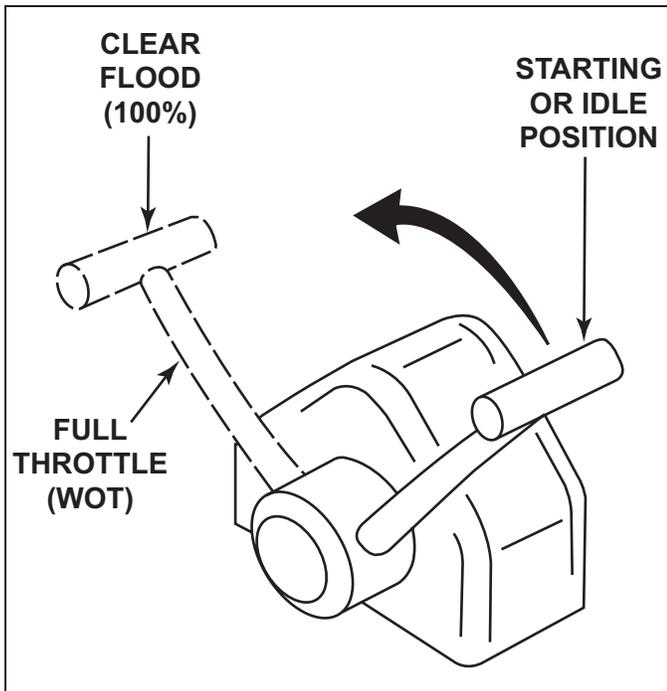

**Figure 5-2A** Water Leaks
- Cooling system for leaks. If equipped with fresh-water cooling, check coolant level in recovery bottle. Check for signs of water leaks at the exhaust manifolds, risers and elbows (Figure 5-2A). If the water is leaking externally, it is possible that the water is also leaking internally. This could result in internal engine damage. It is very important to service these maintenance items as soon as a problem is indicated.